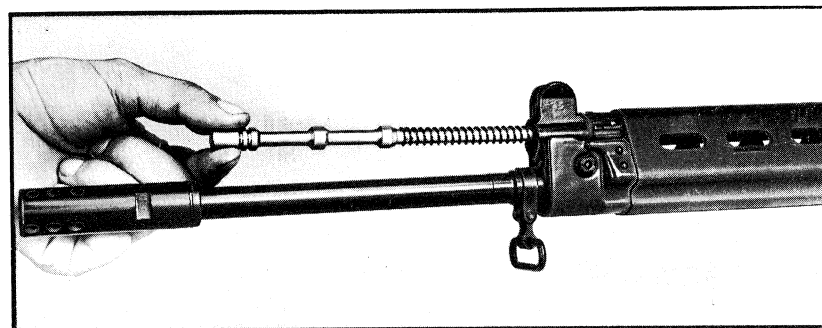

Fig.44
f) **Remove piston** and piston spring from the gas cylinder (fig. 44).